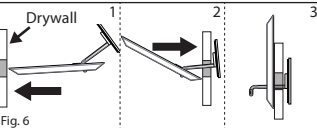

Fig. 6
13. Once the bar is completely inside the wall, pull outward/back on the flange and ensure the bar tilts upward behind the wall and straightens upright. The bar should be resting on the back side of the wall and pointing upward with the longest side at the top. (Fig. 6)